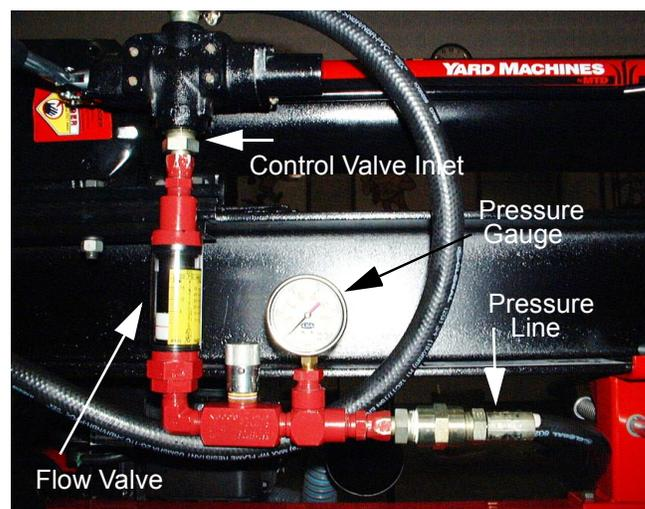

Figure 2
- Secure the male union to the flow meter connector using a 1-1/8" wrench and a 7/8" wrench. ____ See Figure 2.